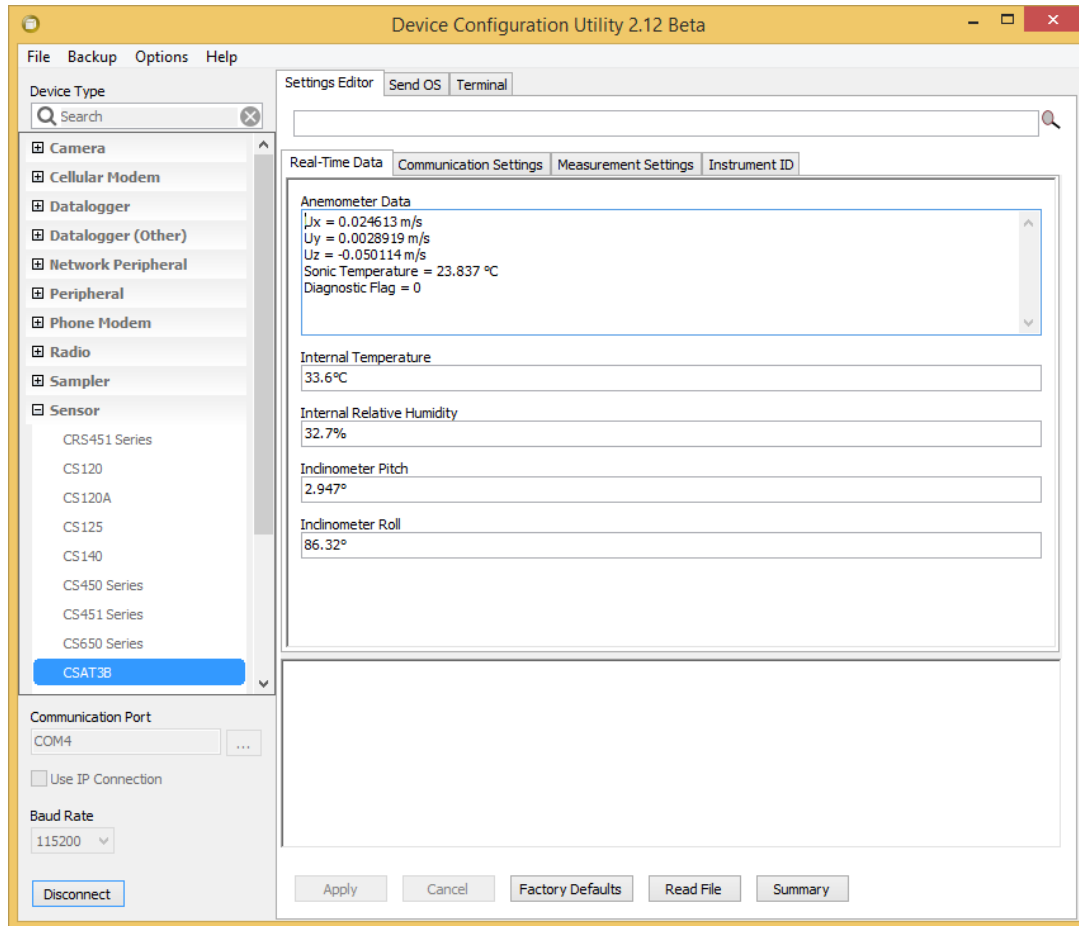

FIGURE 7-2. Real-time data subscreen while connected to CSAT3B with Device Configuration Utility
7. Once connected, the main screen will have a section with tabs to view the following four subscreens: *Real-Time Data*, *Communication Settings*, *Measurement Settings*, and *Instrument ID*. TABLE 7-1 describes each of the settings or status values in these subscreens. For each setting or status value, the factory default setting is noted by the footnote. Ensure that the appropriate settings are enabled for the communication protocol that will be used. An example subscreen is shown in FIGURE 7-2.